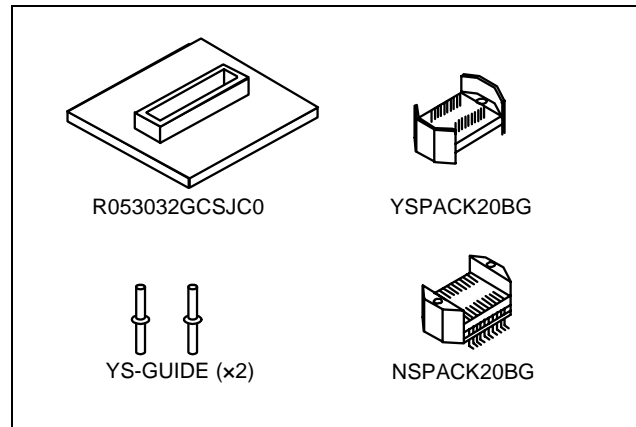

Figure 1 Package components of the R0E53032GCSJC0
2. Package Components (See Figure 1)